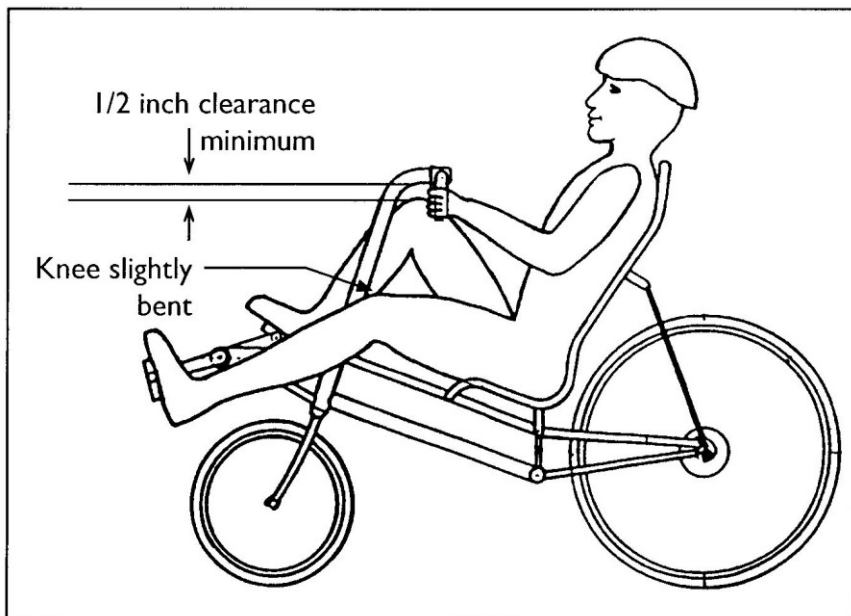

FIG. 2-1
- B) Slide the cranks in or out until your legs are slightly bent at their furthest extension. (See Fig. 2-1). It's better to have the cranks too close when making the initial adjustment than too far away.
- B)** Adjust the handlebars up or down so that there is approximately 2 inches (for V-bars) or 1/2 inch (for drop bars) of clearance between your knees and the handlebars (see Fig. 2-1).